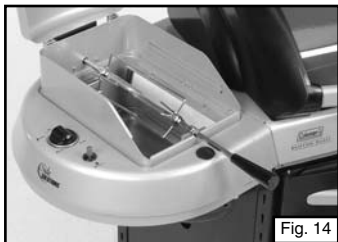

Fig. 14
4. Figure 14 illustrates the spit rod correctly installed.